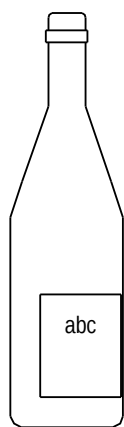

fig. 11
- If the bottle is like in fig. 11, you have to unscrew and move the group 1 towards the front side of the machine. Make another bottle and repeat until the right position is reached. **Write down that measure for following uses.**